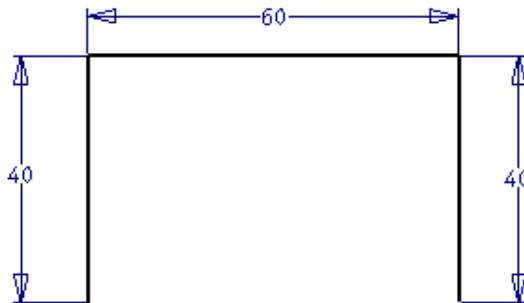

Figure 18-44 First 2D sketch
- a. Create a 2D sketch consisting of three lines on the XZ plane and then exit the sketching environment, refer to Figure 18-44.
4. Draw the first sketch on the XZ plane, as shown in Figure 18-44.